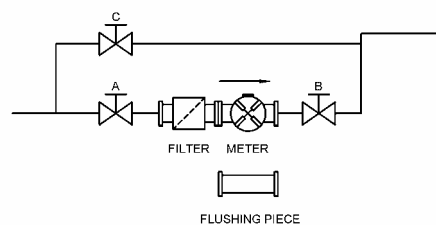

Figure 12 Flowmeter system with bypass
1. Close valves A, B and C (Figure 12).